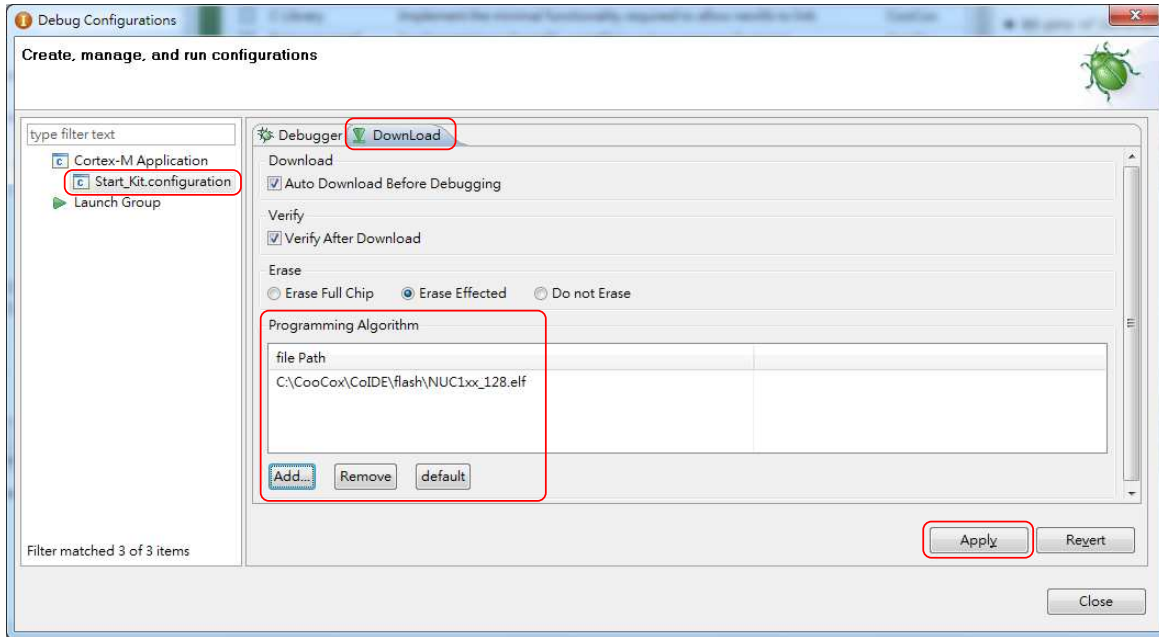

Figure 4-21 CooCox CoIDE Programming Settings
Step 4: In the **Download** tab of the *Debug Configurations* form (through invoking **Debug** → **Debug Configurations**), select the **Auto Download Before Debugging** or **Verify After Download** option to proceed with a specific programming, and set the Programming Algorithm path as “*C:\CooCox\CoIDE\flash\NUC1xx_128.elf*”, as shown in Figure 4-21.
Step 6: At last, click **Apply** to save the settings, as shown in Figure 4-21.